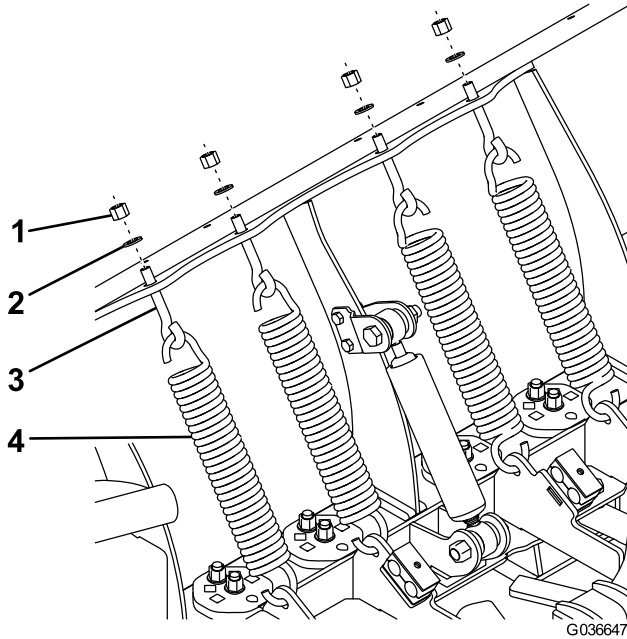

Figure 4
1. Hook the 4 trip springs through the holes on the push-frame assembly (Figure 4).
2. Hook the other ends of the trip springs to 4 eyebolts (Figure 4).
3. Insert the threaded end of the eyebolts through the holes on the plow blade and secure them using 4 washers (1/2 inch) and 4 self-locking nuts (Figure 4).